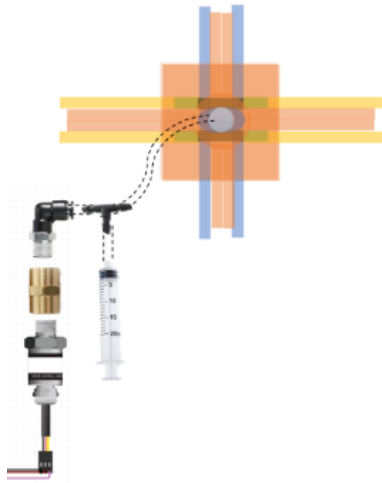

Figure 5. Tee fitting connections
- 3.3.2 Attach a tee fitting and hoses linking the syringe of the deadweight tester, the handheld 20 cc syringe, and the pressure transducer (see *Figure 5*). Ensure secure connections. Use the minimum necessary length of hose to minimize pressure losses.